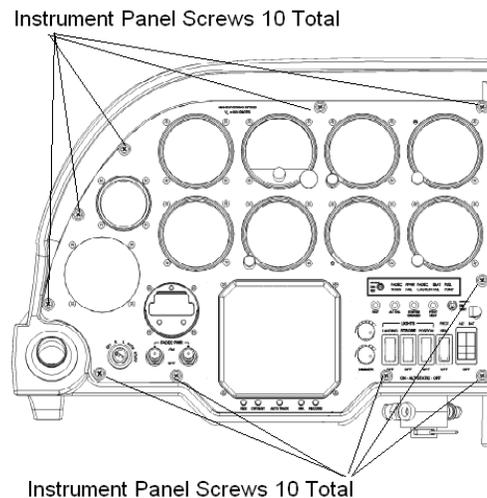

Figure 34-35 Location of the Screws Securing the Instrument Panel
4. Remove the ten screws securing the instrument panel to the instrument console. See Figure 34-35 for location of the screws.
5. Remove the ten screws securing the instrument panel to the instrument console. See Figure 34-35 for location of the screws.